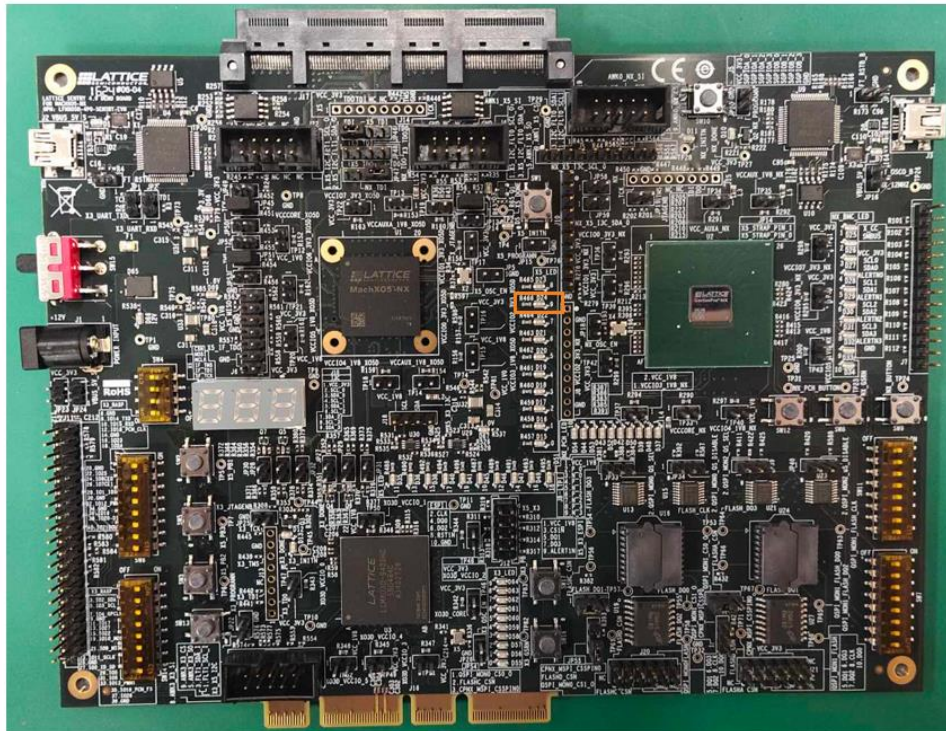

Figure 6.17. D24 LED Blink
- Wait until LED D24 blinks (Figure 6.17). Then, enter 2 in the Menu to select the M-PESTI demonstration and hit Enter.